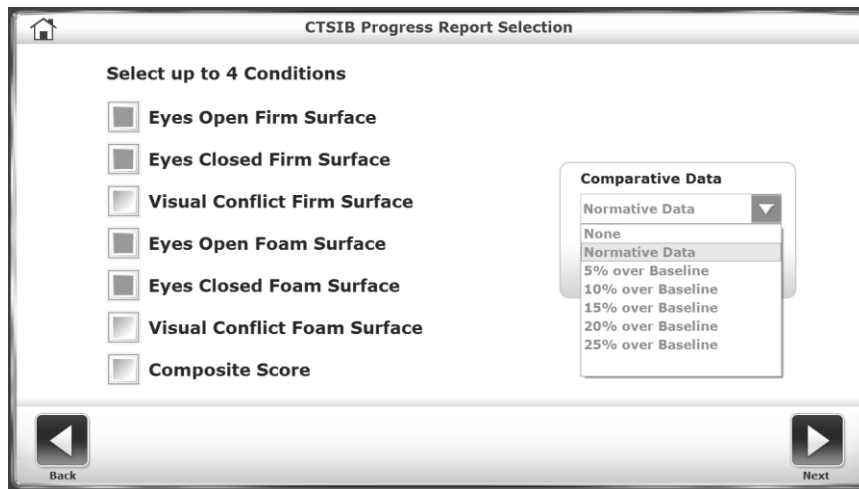

Figure 7.8. *Selecting Data for a Progress Report.*
5. Set the type of Comparative Data. The default is normative data. If a baseline test is available, a percentage over the patient's baseline score can be selected (see Figure 7.8).